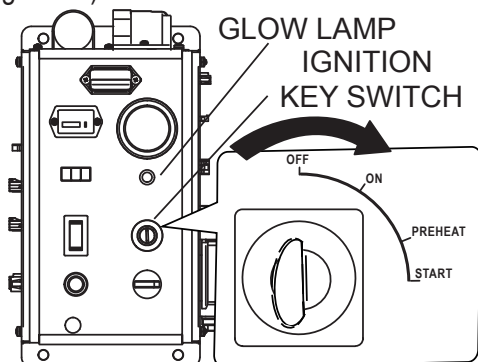

Figure 20. Ignition Switch
3. Insert the ignition key into the ignition key switch (Figure 20).